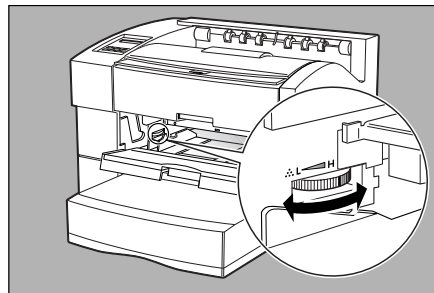

Fig. 4.12 Adjust Print Density Dial
2. Turn the print density dial toward the H (Higher density) to darken the print or toward the L (Lower density) to lighten the print (fig. 4.12).